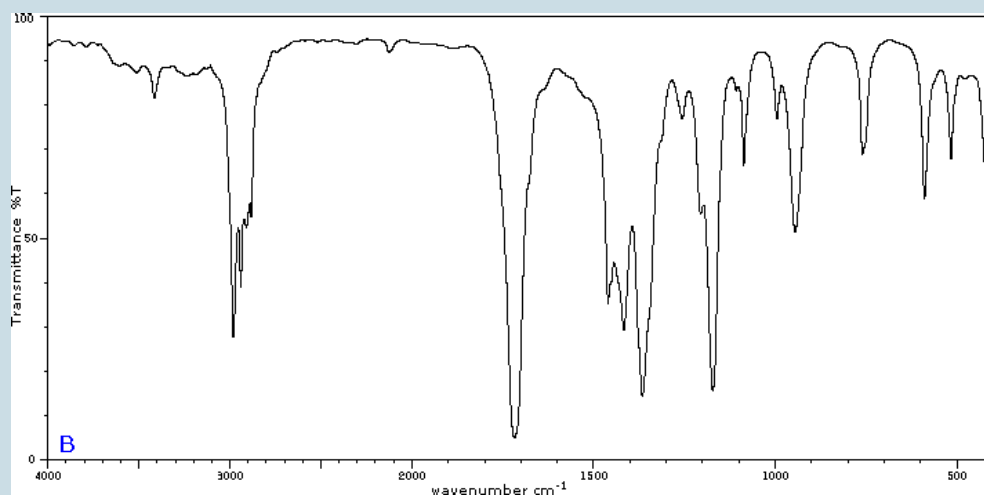
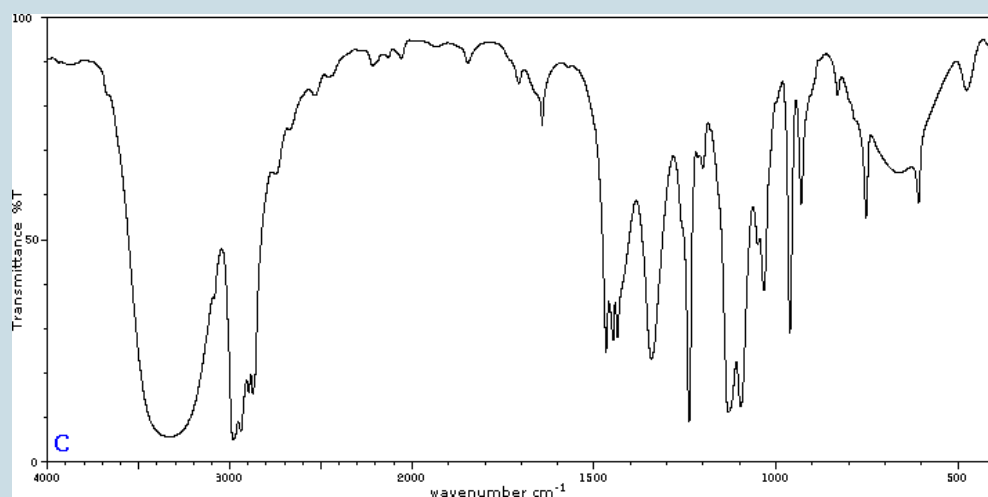
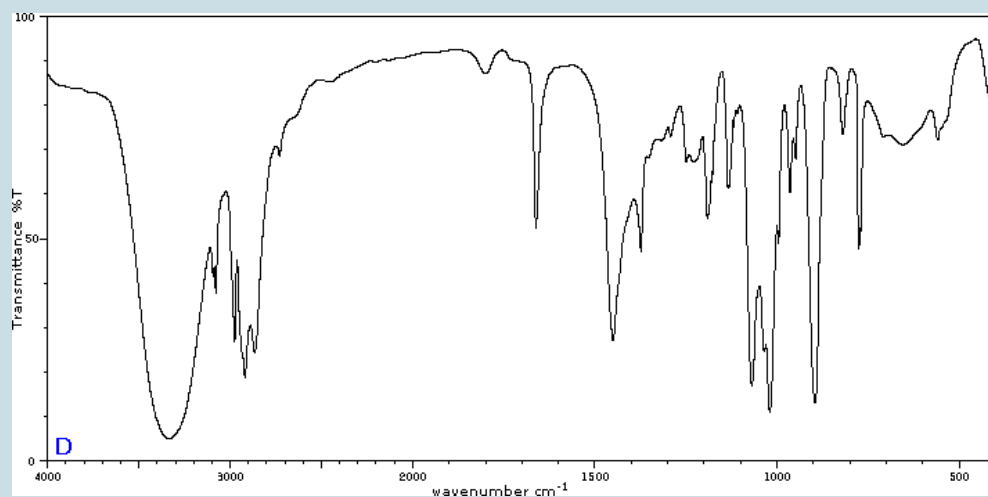
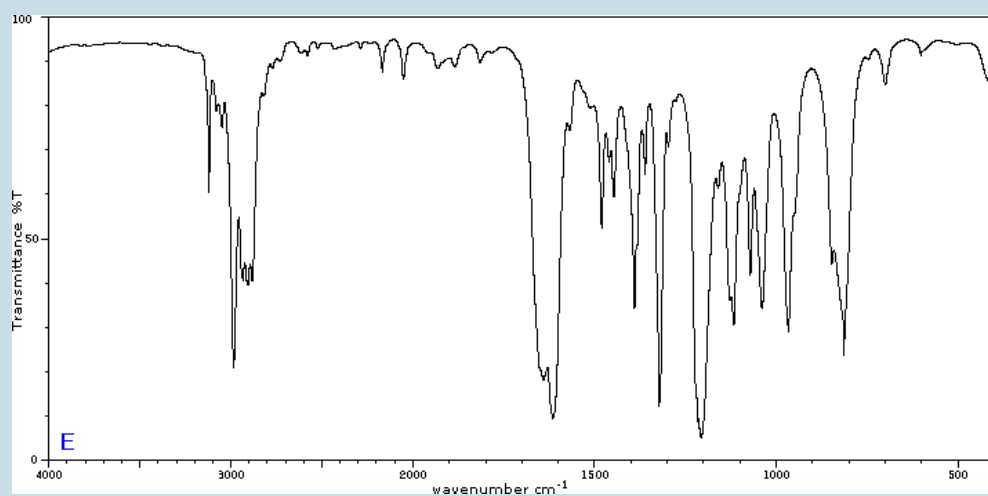

Figure 29.6v. Infrared spectrum of unknown compound B. (Credit: Map: Organic Chemistry \(Wade\), CC BY-NC-SA 4.0)
Figure 29.6w. Infrared spectrum of unknown compound C. (Credit: Map: Organic Chemistry \(Wade\), CC BY-NC-SA 4.0)
Figure 29.6x. Infrared spectrum of unknown compound D. (Credit: Map: Organic Chemistry \(Wade\), CC BY-NC-SA 4.0)
Figure 29.6y. Infrared spectrum of unknown compound E. (Credit: Map: Organic Chemistry \(Wade\), CC BY-NC-SA 4.0)
Five infrared spectra are provided for isomers of $\text{C}_4\text{H}_8\text{O}$. Their structural formulas are also provided in Figure 29.6t. Associate each spectrum (Figure 29.6v through z) with one of the isomers.
1. Figure 29.6v: 2-methylpropanal, Figure 29.6w: 2-butanone, Figure 29.6x: cyclobutanol, Figure 29.6y: 2-methyl-2-propen-1-ol, Figure 29.6z: ethyl vinyl ether
29.7 MASS SPECTROMETRY (MS)